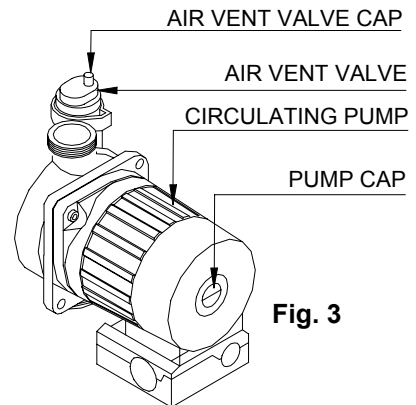

Fig. 3
- make sure the cap on the auto air vent valve is slightly loose to allow air to escape from the system (see fig. 3);
- undo the cap on the circulation pump to eliminate any eventual air locks (see fig. 3). It is a good idea to purge all radiators of air at this point too;